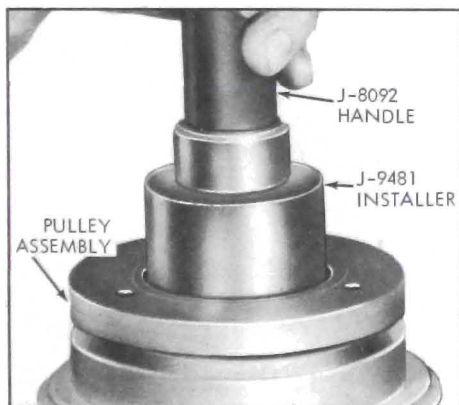

Figure 11-51—Installing Pulley Assembly
3. Support bottom of compressor and press or tap the pulley and bearing assembly on the neck of the compressor, using J-9481 installed on J-8092 as shown. See Figure 11-51. Pulley should rotate freely.